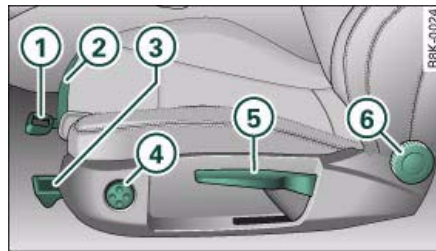

Fig. 72 Adjuster controls on driver's seat
- Lift the lever ① ⇒ fig. 72 and move the seat to the desired position.
- Then release the lever ① and move the seat further until the catch engages.
- Pull the lever ③ ⇒ fig. 72 up or down repeatedly (i.e. pump the lever).
- Press the front or rear part of the adjuster switch ④ to increase or decrease the curvature of the lumbar support as required. ▶
- Press the top or bottom part of the adjuster switch (4) to move the lumbar support upwards or downwards as required.
- Pull the lever (5) ⇒ page 70, fig. 72 up or down repeatedly (i.e. pump the lever).
- Turn the adjuster wheel (6) ⇒ page 70, fig. 72 to set the angle of the backrest as required.